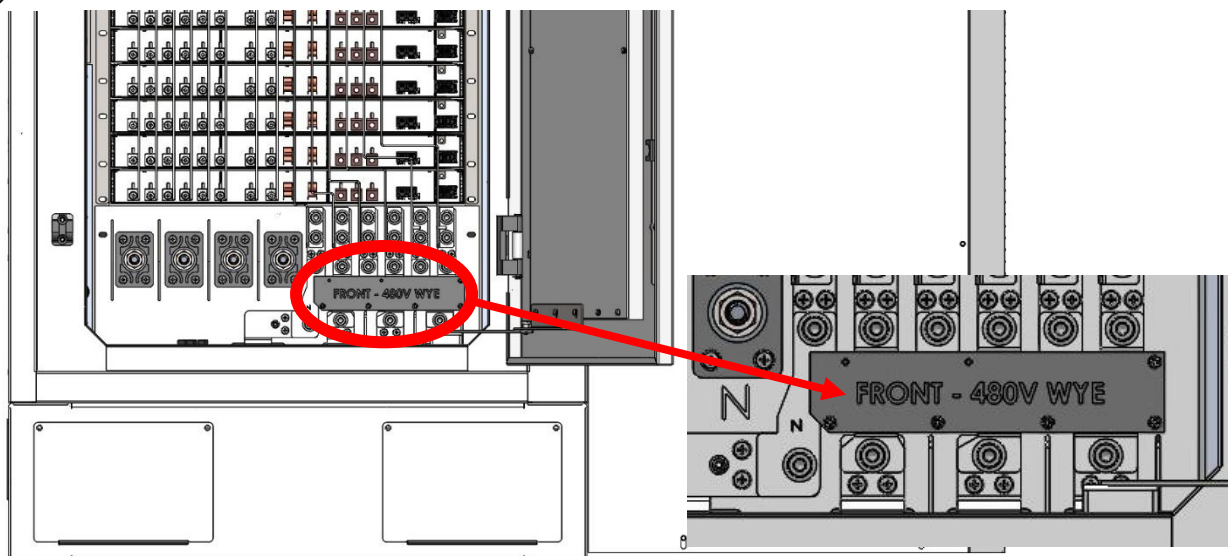

Figure 44 - FRONT – 480V WYE Configuration shown secured on Bus Bar
- Place selected configuration bus bar/plate on the bus bar with its "FRONT" etching or stamp facing out (such as the "FRONT – 480V WYE" example shown in Figure 44).
CAUTION! Configuration Bus Bar must be loaded and secured on Bus Bar with the "FRONT" etching or stamp facing out, as shown in Figure 44.